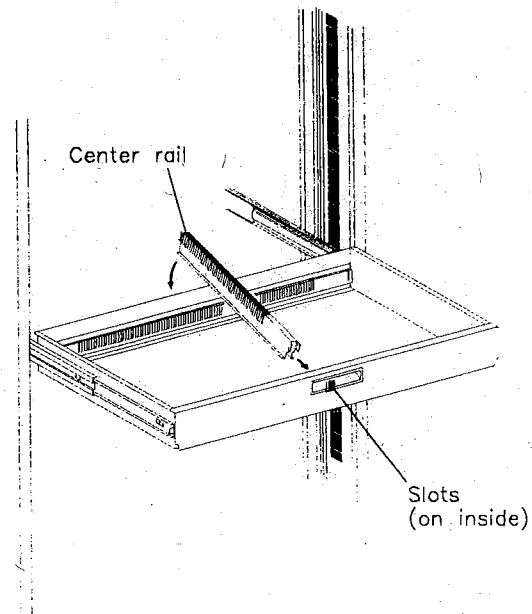

Figure 2. Center rail installation
2. Install center rail as shown in Figure 2, positioning it in middle of drawer by inserting the tabs into the front slotted panel first, then into the rear panel. When installed the space on either side should be approximately 15 7/8".